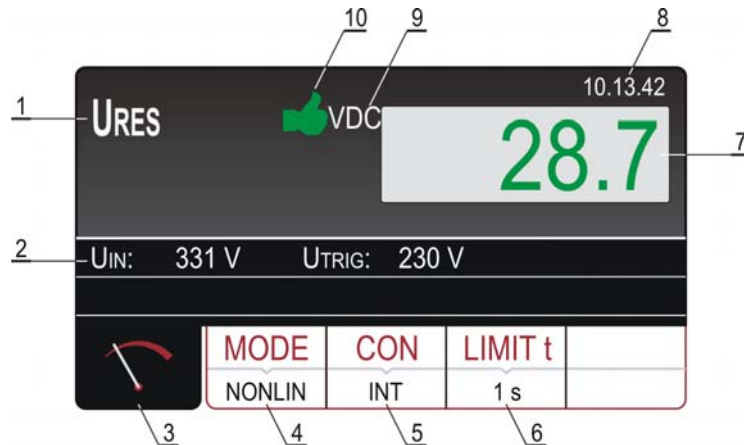
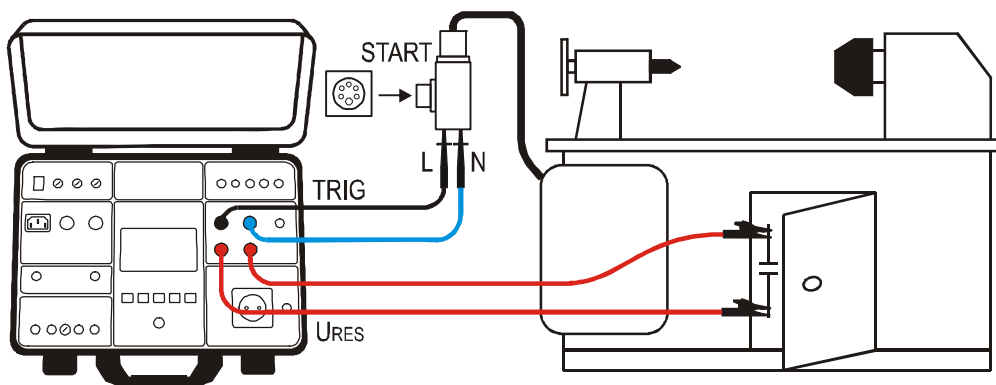

Figure 33: Display with URES test result
Figure 34: Connection of test leads in URES INT measurement on 1P/3P plugged machines
- 7) READY, DISCONNECT UUT message will appear when U_{TRIG} voltage within required range $100 \div 460$ V AC is present. Carry out the measurement by disconnecting UUT. Disconnection of UUT according to the figure 33 means disconnection of multiple plug adapter. Disconnection of UUT according to the figure 34 means turning off mains switch.